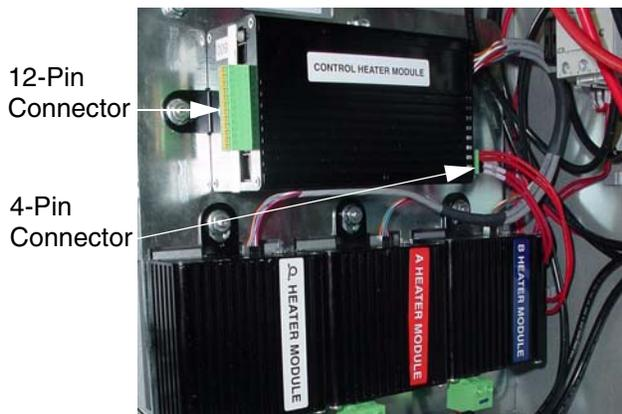

FIG. 22
1. Plug 4-pin green connector into heater control module. See FIG. 22